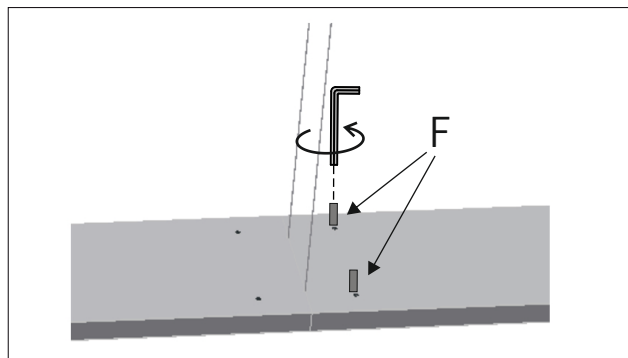

Figure 6
6 - Put the tracks together and screw the other two supplied studs (F) until they stop, be gentle with the pressure. Do not over tight. Figure 6.